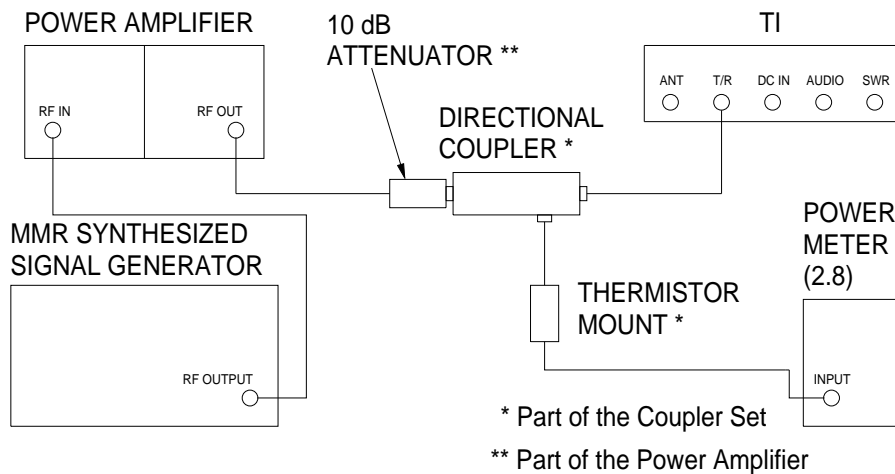

Figure 2.
4.3.1.1 Connect equipment as shown in Figure 2.